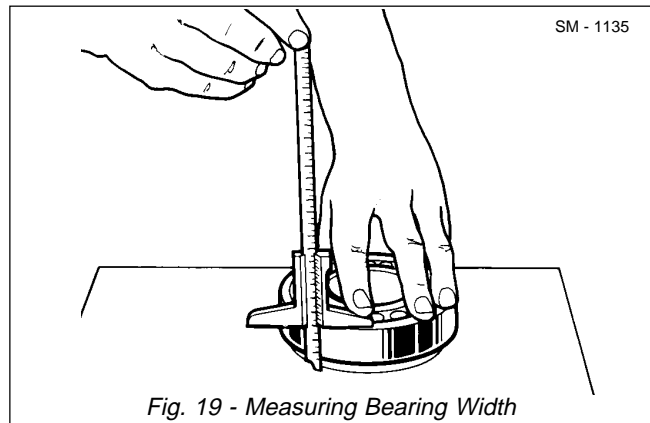

Fig. 19 - Measuring Bearing Width
3. Measure the width of roller bearing (60) as shown in Fig. 19. e.g. 37.05 mm (1.50 in).